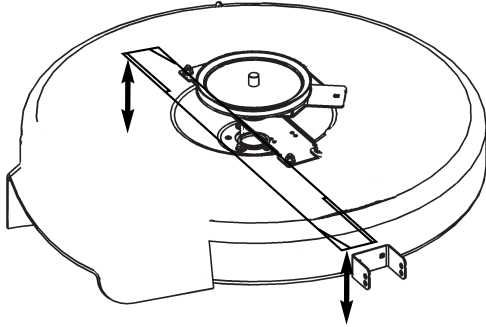

Figure 51. Orient Blades Front-to-Back
1. Turn the blade front-to-back as shown in Figure 51. Measure the distance from the ground to front tip of blade, and from ground to rear tip of blade (Figures 51). Front tip should be 1/8"-1/4" (3-6 mm) higher than rear tip. If not, proceed to step 2.